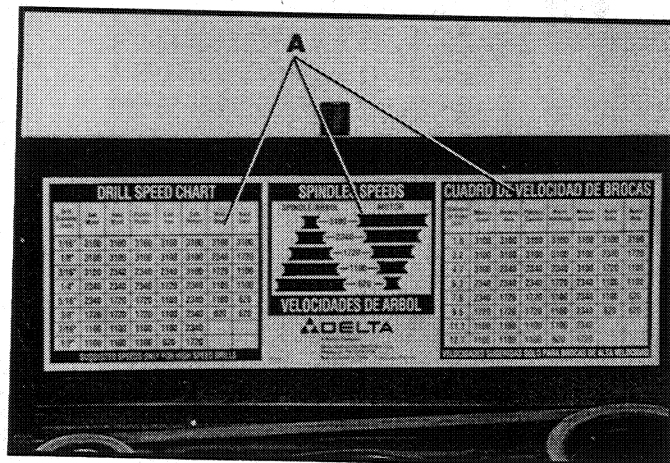

Fig. 38
**WARNING:** Use the recommended speed for the drill press bit and workpiece material. As a guideline for the speed to use for different drill diameters and materials, refer to the chart (A) Fig. 38, located on the inside top cover of the drill press for your convenience.